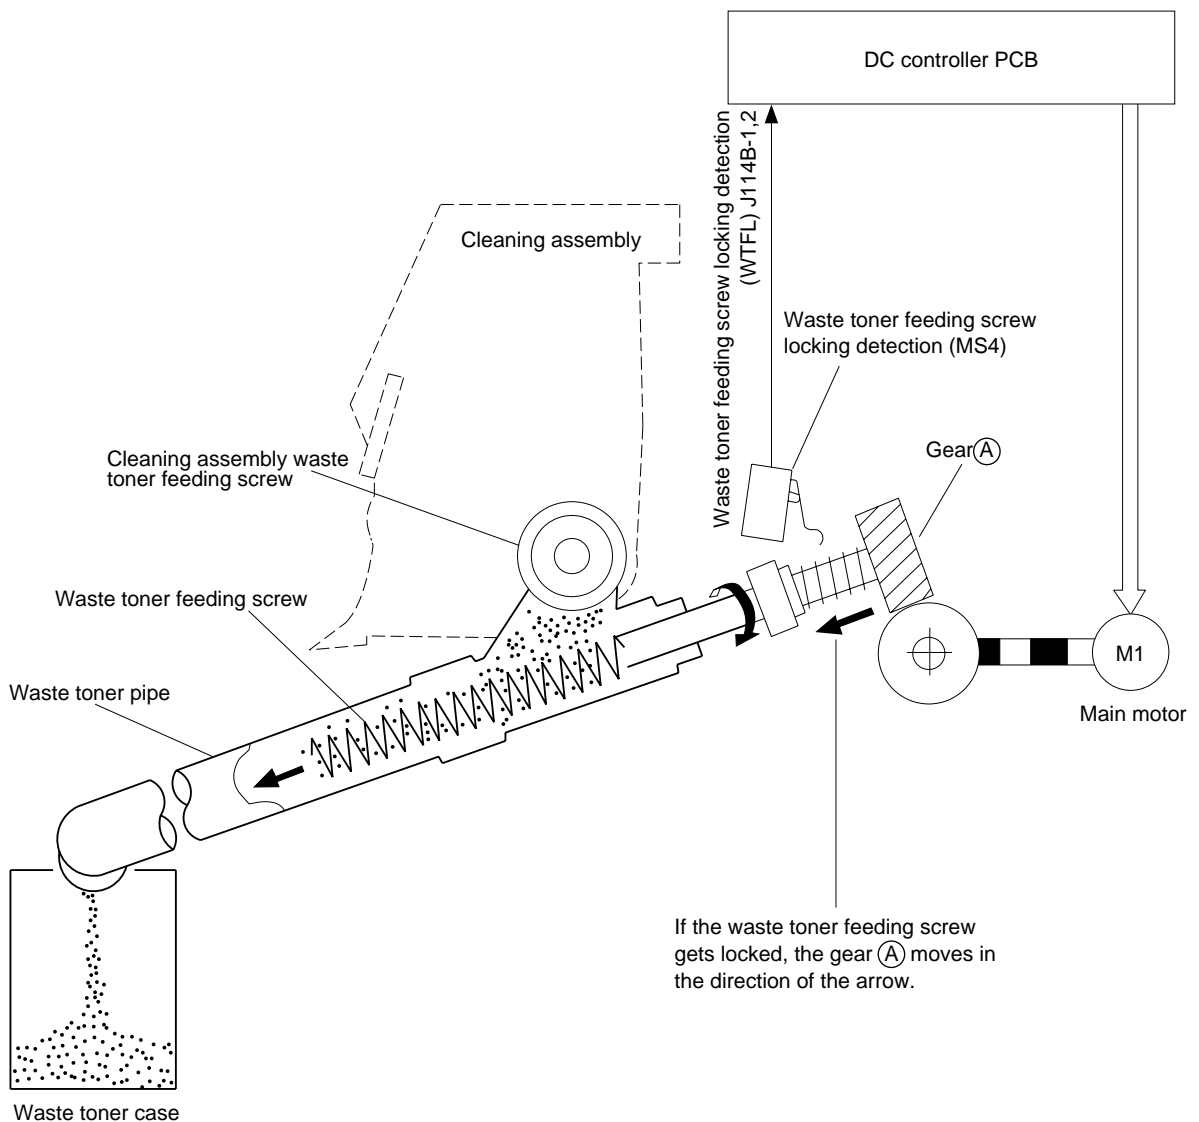

Figure 4-210 (rear view)
The gear ① (Figure 4-210) for the waste toner feeding screw is subjected to a force in the direction of the axis when the feeding screw gets locked and is moved along the axis.